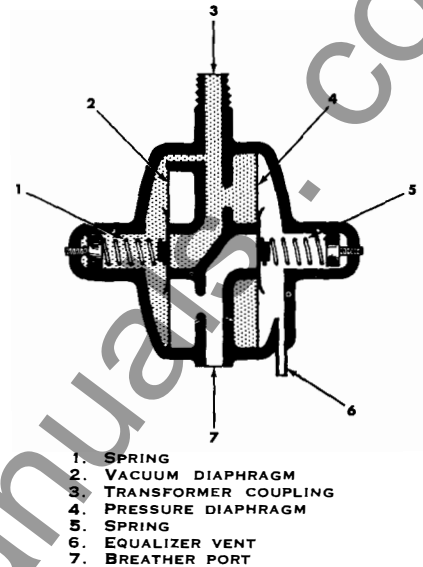

Fig. 13. Schematic view of pressure-vacuum bleeder
Fig. 13 is a multi-section view showing the internal arrangement of the bleeder in schematic form. If a pressure exists in the transformer gas space, the pressure in the chamber to the left of diaphragm (4) will be greater than the atmospheric pressure in the chamber to its right. When the difference becomes great enough spring (5) will be compressed, permitting air from the transformer to bleed out through port (6). If a vacuum exists, the atmospheric pressure in the chamber to the right of diaphragm (2) will be greater than the transformer pressure in the chamber to its left. When the difference becomes great enough spring (1) will be compressed, permitting air to bleed into the transformer.